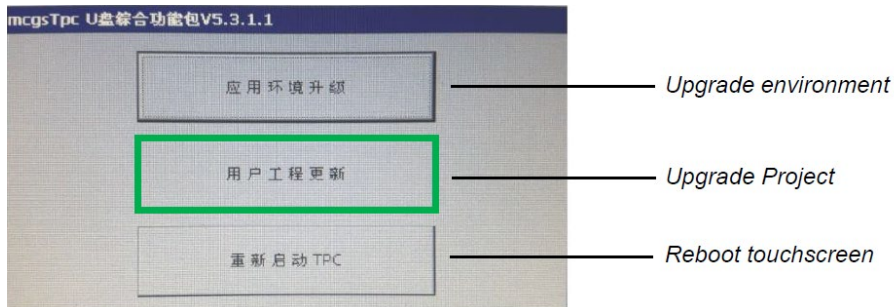

Figure 15
4. In the next window (fig.15), tap the middle button, which has the Chinese characters, '用户工程更新'.